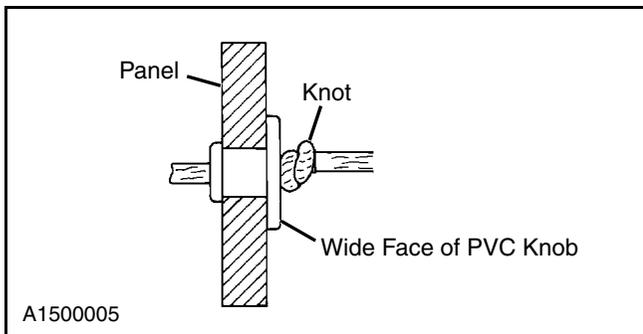

Figure 36
10. Hold the rope taut and tie a knot close to the wide face of the second knob. There should be very little slack in the finished rope tie assembly. (See Figures 36 and 37.)